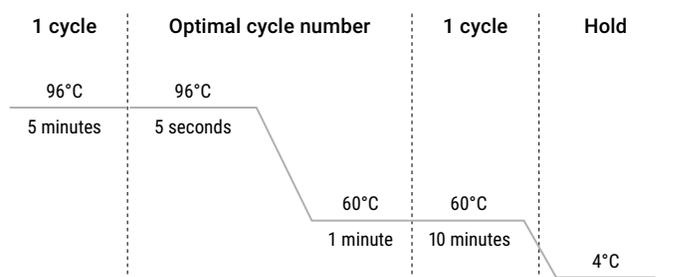

Figure 1. Thermal cycling protocol for the ProFlex® PCR System.
- Select and run the recommended protocol, which is provided below and in Figure 1. The total cycling time is approximately 1 hour.